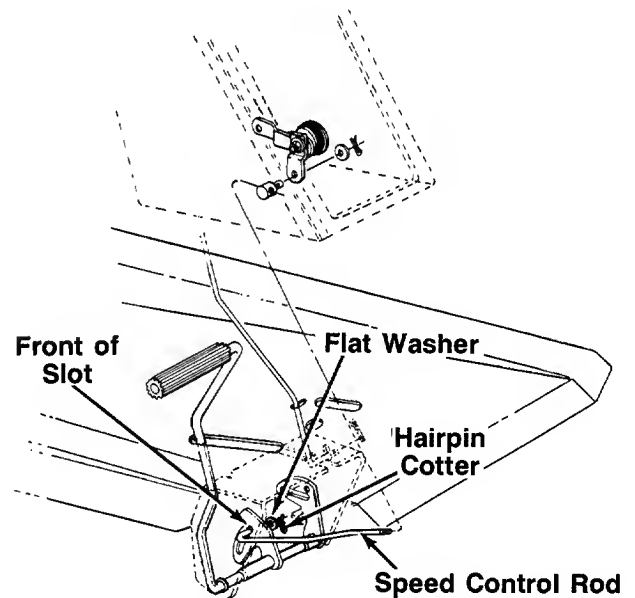

FIGURE 24.
7. Disconnect the speed control rod by removing the hairpin cotter and flat washer. See figure 24.
9. Adjust the rod by threading it in or out of the ferrule until it is all the way to the front of the slot as shown in figure 24.